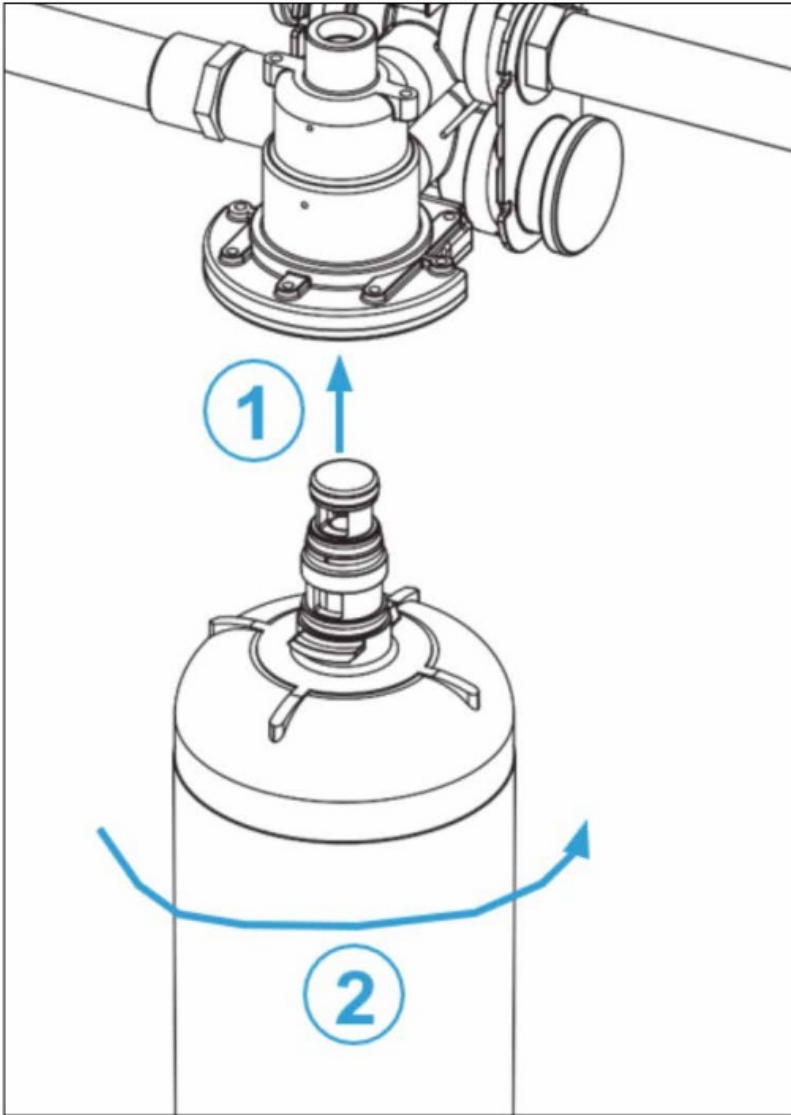

Figure 6. INSTALLING CARTRIDGE
1. Install the filter into the manifold by inserting it into the manifold head and swiftly turning it quarter turn to the right (clockwise) until it fully seated (**Figure 6**).